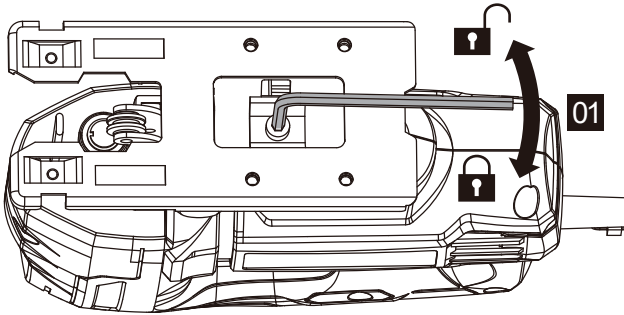

Figure 10-1
7. BASE PLATE ANGLE ADJUSTMENT (SEE FIG. 10-1 & 10-2)